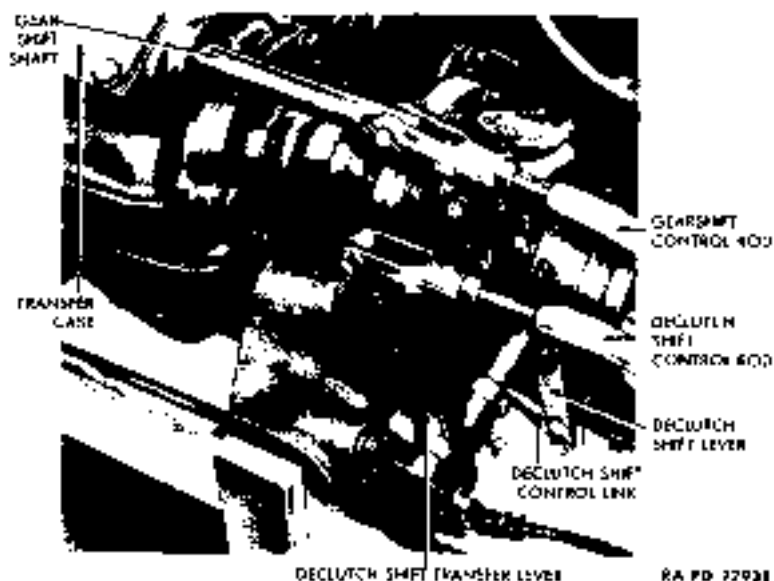

Figure 55 — Transfer Case Linkage
(1) **DISCONNECT GEARSHIFT CONTROL ROD** (fig. 55). Remove the cotter pin, clevis pin, and flat washer from each end of rod, and remove rod.
(2) **REMOVE DECLUTCH SHIFT CONTROL ROD** (fig. 55). Remove the cotter pin, flat washer, and clevis pin at each end, and remove rod.
(3) **DISCONNECT DECLUTCH SHIFT LEVER** (fig. 55). Remove the cotter pin, flat washer, and clevis pin which secure lever to declutch shift control link.
(1) **CONNECT DECLUTCH SHIFT LEVER** (fig. 55). Position lever to declutch shift control link. Secure with clevis pin, flat washer, and cotter pin.
(2) **CONNECT DECLUTCH SHIFT CONTROL ROD** (fig. 55). Position rod between declutch shift hand lever and declutch shift transfer lever. Secure with the clevis pin, flat washer, and cotter pin at each end.
(3) CONNECT GEARSHIFT CONTROL ROD (fig. 55). Position rod between gearshift hand lever and gearshift shaft. Secure with the clevis pin, flat washer, and cotter pin at each end.
- c. Remove Declutch Shift Control Rod (fig. 55) (par. 97).